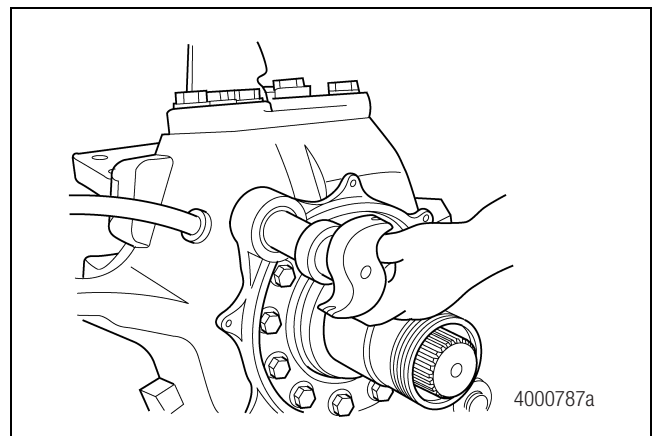

Figure 6.15
11. Install the camshaft. Figure 6.15.